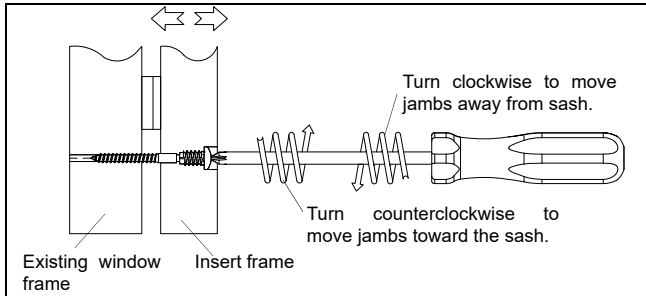

Figure 15
11. Measure width at head jamb, sill, and check rail. Jamb jacks allow for adjustment to obtain an even reveal and proper sash operation. Using a #2 Phillips screwdriver, turn the jamb jack clockwise to move jambs away from the sash or counterclockwise to move jambs toward the sash. Adjust until measurements at head jamb, sill, and check rail are equal. Adjust shims at check rail as necessary. See figure 15.